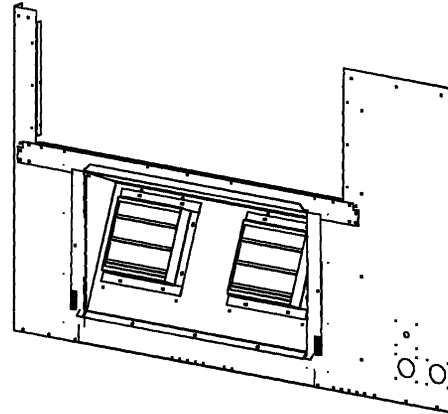

Fig. 16 — Power Exhaust/Relief Damper Assembly
4. Fold barometric relief assembly back into the unit. See Fig. 16.